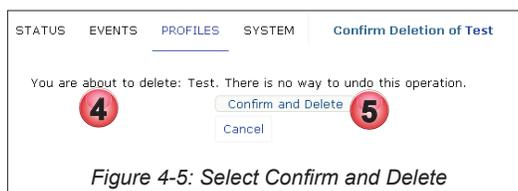

Figure 4-5: Select Confirm and Delete
4. A dialog prompts you to consider that there is no way to undo this operation, Figure 4-5.